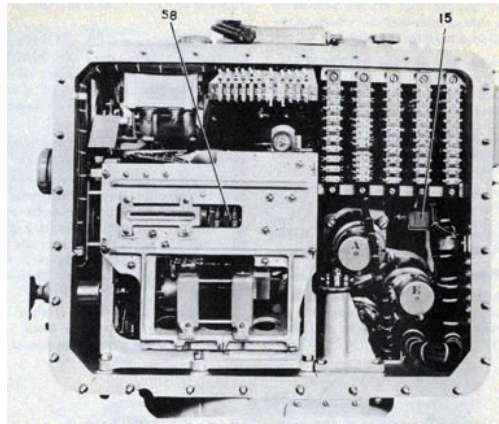

Figure 144-Check Position of Points on Follow-Up Switch. Screw Resistor Block in Place.
15. Screw the resistor block in place to the lower portion of the fuse box opening. See figure 144.
58. Check position of points on the follow-up switch and if points are not centered, rotate sight angle hand crank until points center. See figure 144.